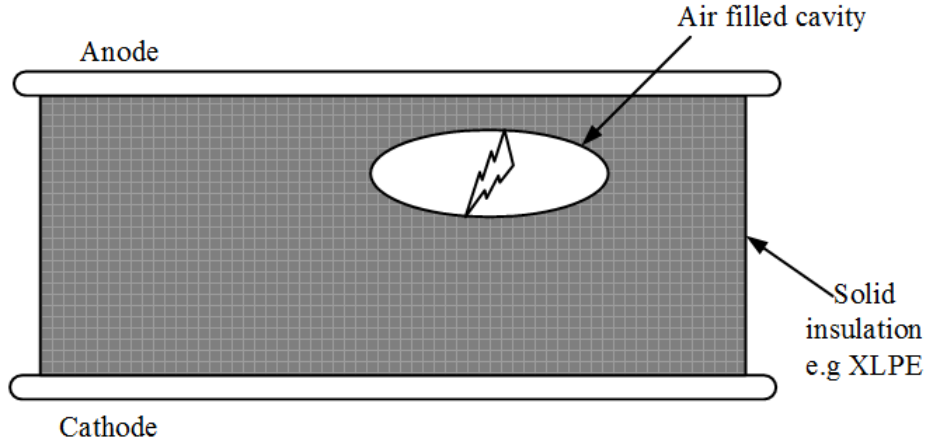

Figure 2: Electrical breakdown starting as a partial discharge in solid insulation
- Solid insulation may contain defects such as air-filled cavities illustrated in Figure 2. Electric field enhancement occurs in the cavity and may be strong enough to cause electrical breakdown of the air in the cavity. This is termed “Partial discharge” (PD). Sustained PD activity in the cavity can lead to a complete short circuit across the solid insulator.